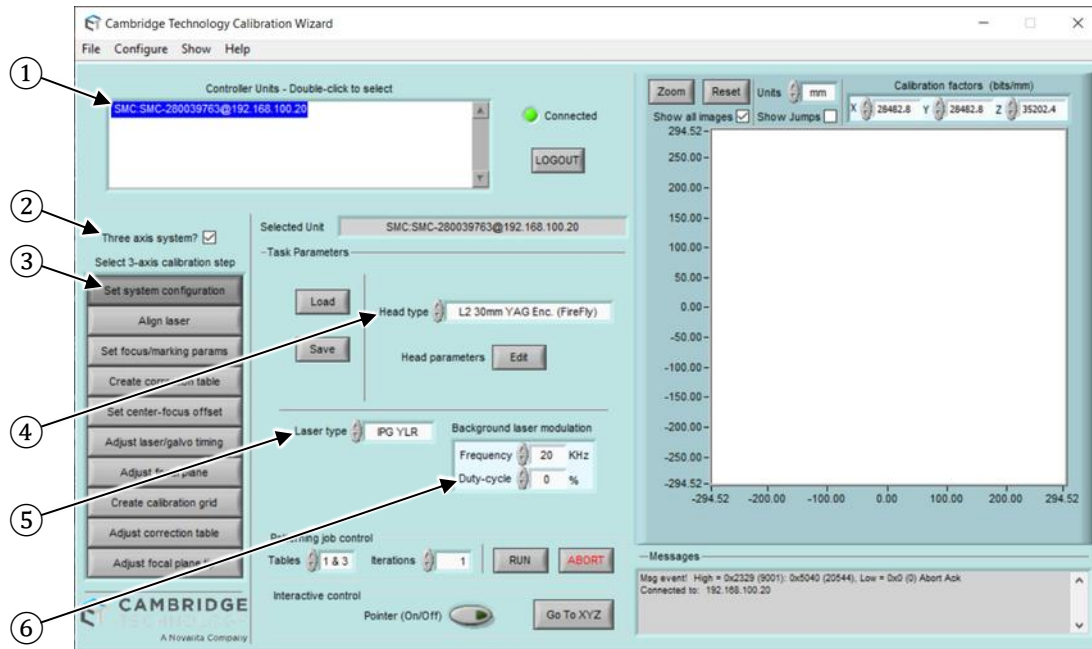

Figure 20: Calibration Wizard
2. Referring to Figure 20 on page 62, configure the software in the following way: